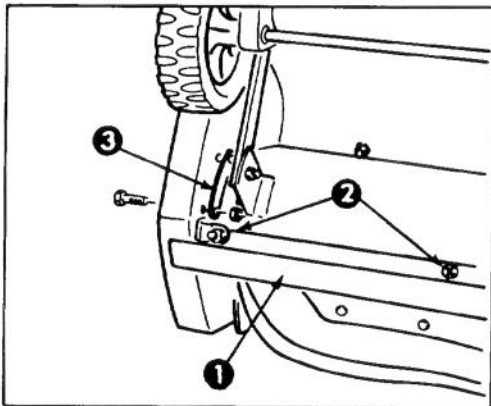

Figure 13
4. Remove (2) capscrews and nuts securing lower housing bracket to sideplate (Fig. 13&14).
5. Tip snowthrower up onto its nose. Remove carriage bolts and lock nuts holding scraper in place (Fig. 13). Remove scraper and lower housing bracket.